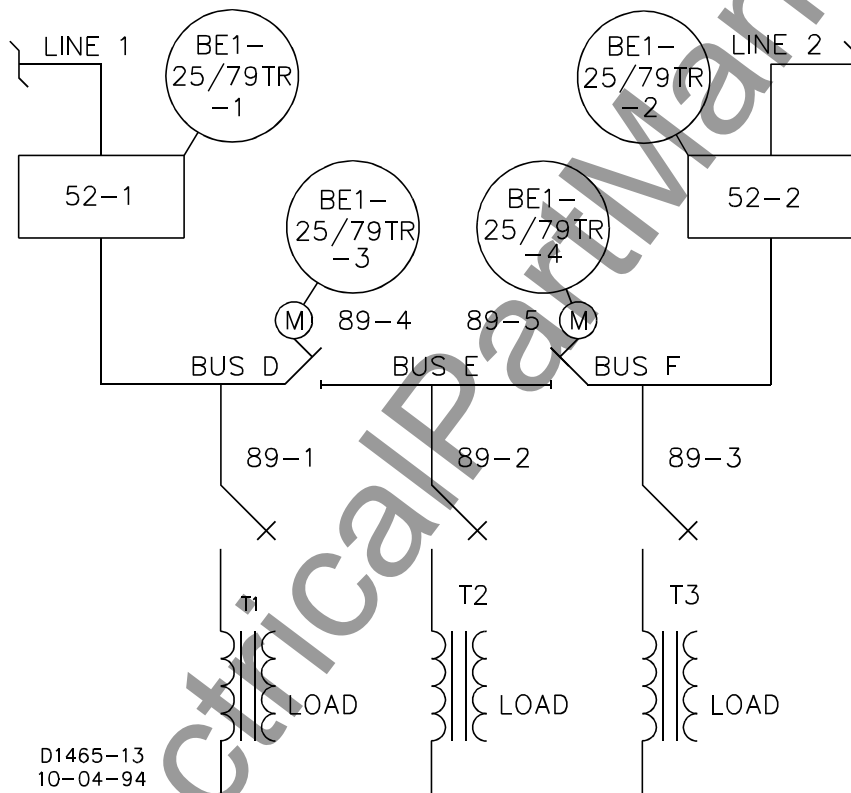
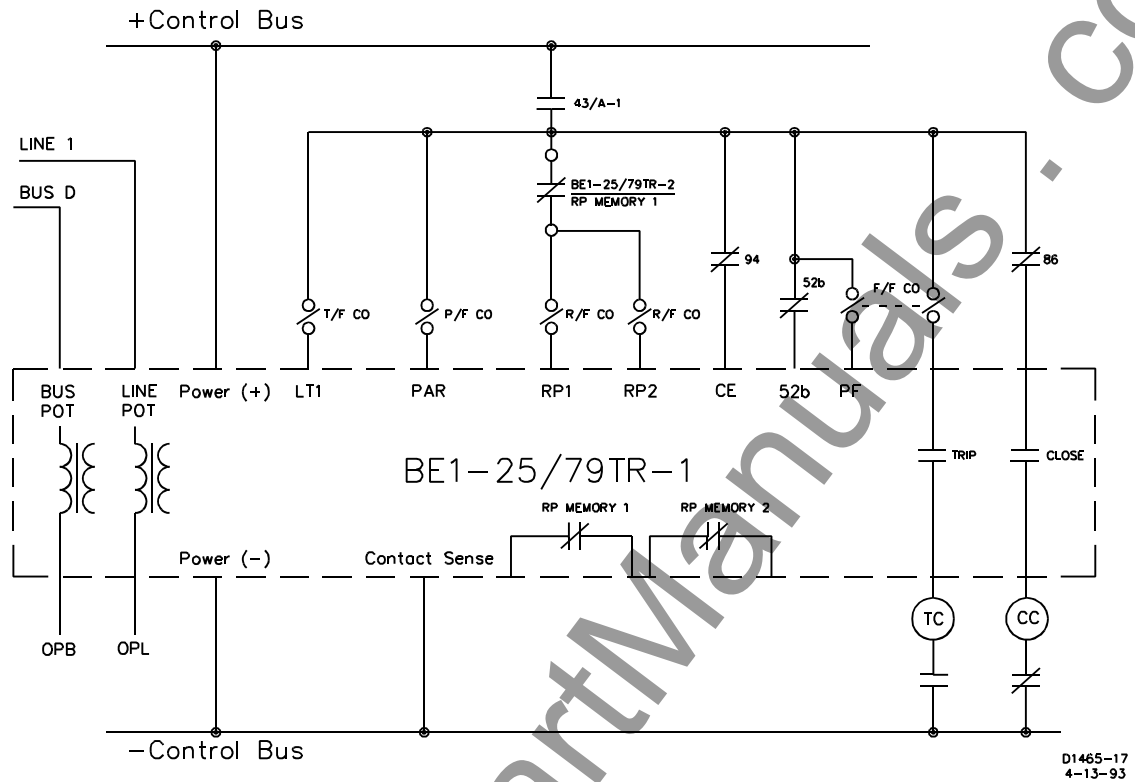

Figure 1-4. Loop Station Application Example
Figure 1-5. Application Example BE1-25/79TR, Relay 1
Our example, Figures 1-4 illustrates a typical three transformer looped station automated reclosing application. In this example, four BE1-25/79TR relays are used. BE1-25/79TR relay number 1 is connected across breaker 52-1 (Line 1 potential transformer (PT) feeds the relay line input and bus D PT feeds the relay bus input). BE1-25/79TR relay number 2 is connected in a similar manner for breaker 52-2. BE1-25/79TR relay number 3 is connected to motor operated switch 89-4 with bus D PT feeding the line input and bus E PT feeding the bus input. BE1-25/79TR relay number 4 is connected in a similar manner for motor operated switch 89-5, Bus F, and Bus E. When reclosing 89-4 and 89-5, 89-4 is set to close first. Figures 1-5 through 1-8 illustrate connections for the four BE1-25/79TR relays in our example application.
Legend (for Figures 1-5 through 1-8)